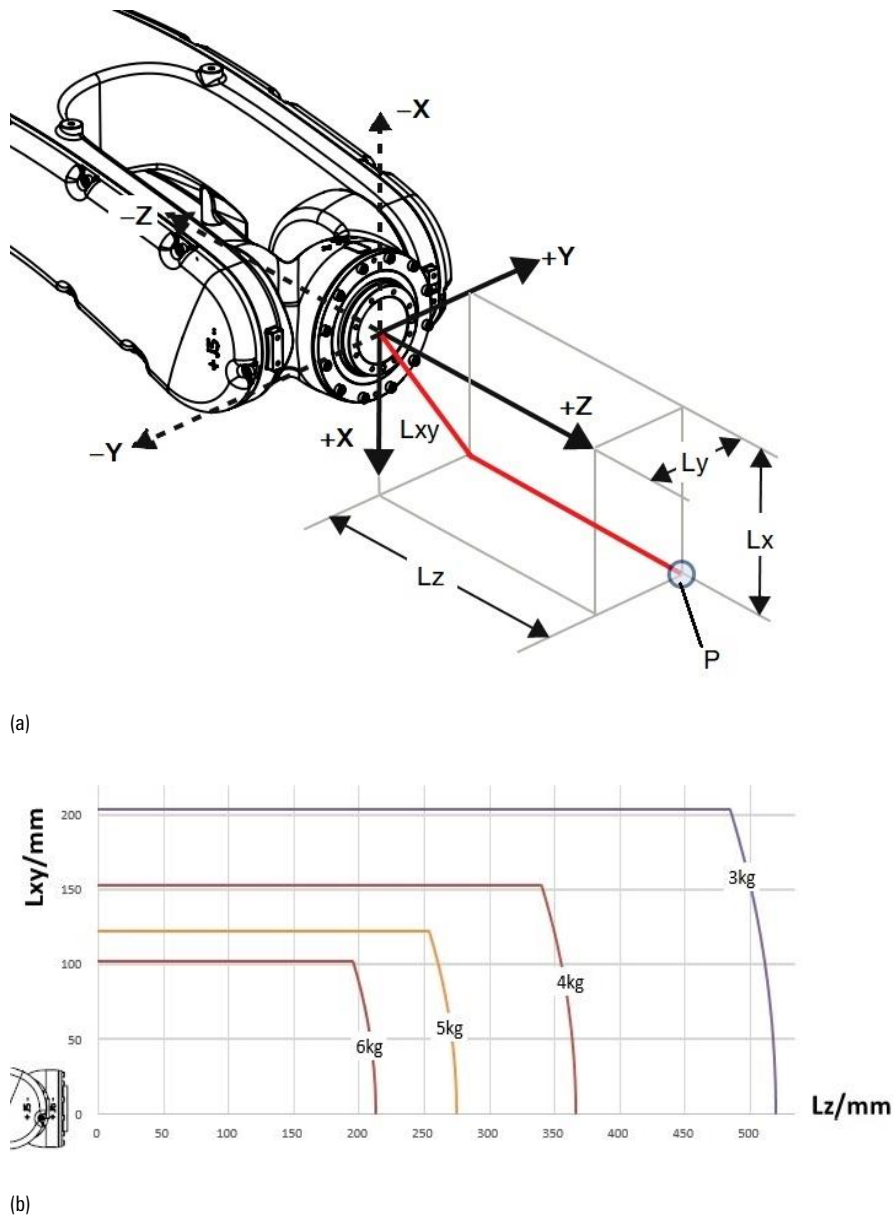

Figure 8-5 AIR6-1460B-HW manipulator wrist load center of mass position diagram
Please refer to Figure 8-5 for a diagram of the center of mass position of the wrist load of the AIR6-1460B-HW manipulator.
- The load conditions should be within the range shown in Figure 8-5 and Table 8-4